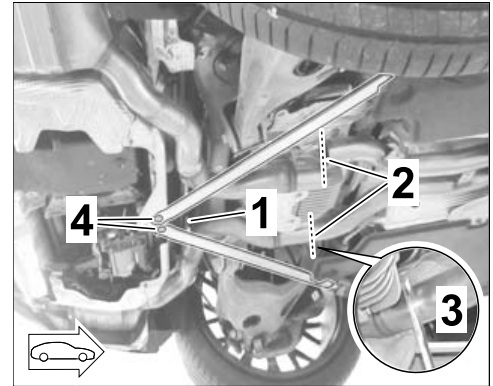

Figure 22
- 3.1.4 Cut rear silencer at the connection point for the front silencer (marking on underside) using pipe cutters or **Body saw** (⇒ *Figure 22*).